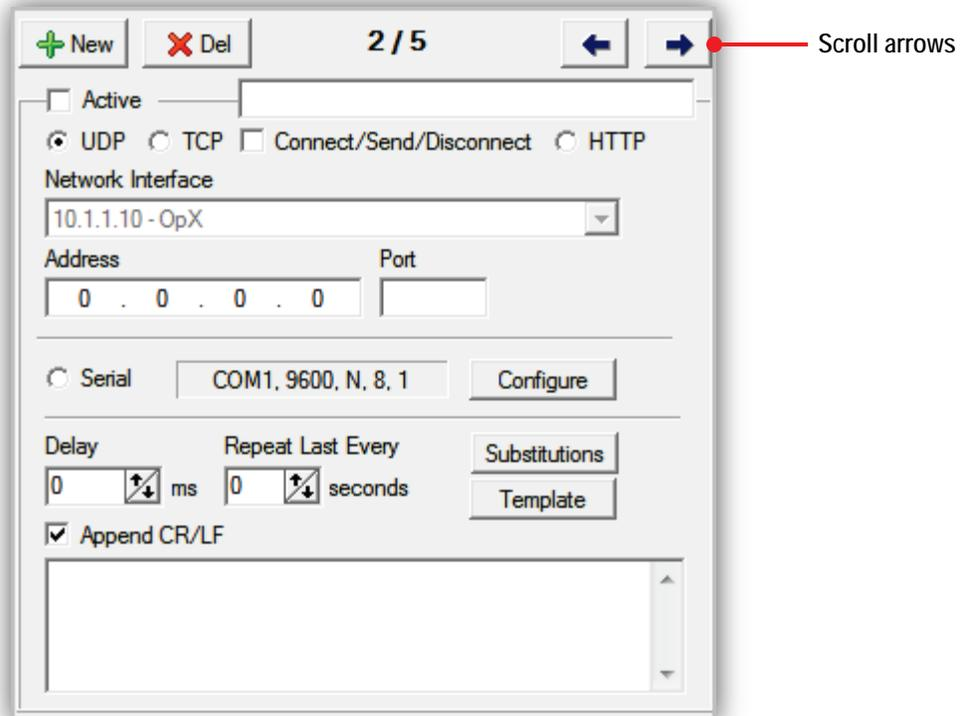

Figure 16-6. Scroll Arrows
2. On the right side of the OpX Repeater window, use the scroll arrows to find the data repeater you want to edit (see Figure 16-6). The field to the left of the arrows shows the number for the current data repeater and the total number of data repeaters that have been set up (for example, **2/5** means the settings for data repeater number 2 is displayed out of 5 data repeaters that have been set up).
- On the right side of the OpX Repeater window, use the scroll arrows to find the data repeater you want to delete (see Figure 16-6).